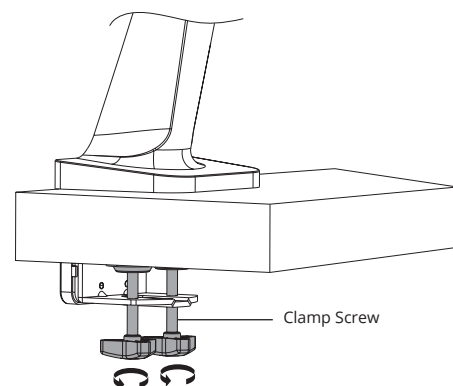

Figure 4
4. Position the Arm Assembly to the desktop. Loosen the clamp screw according to the thickness of the desktop. Tighten the C-Clamp to the desktop by turning the clamp screw clockwise, see Figure 4.